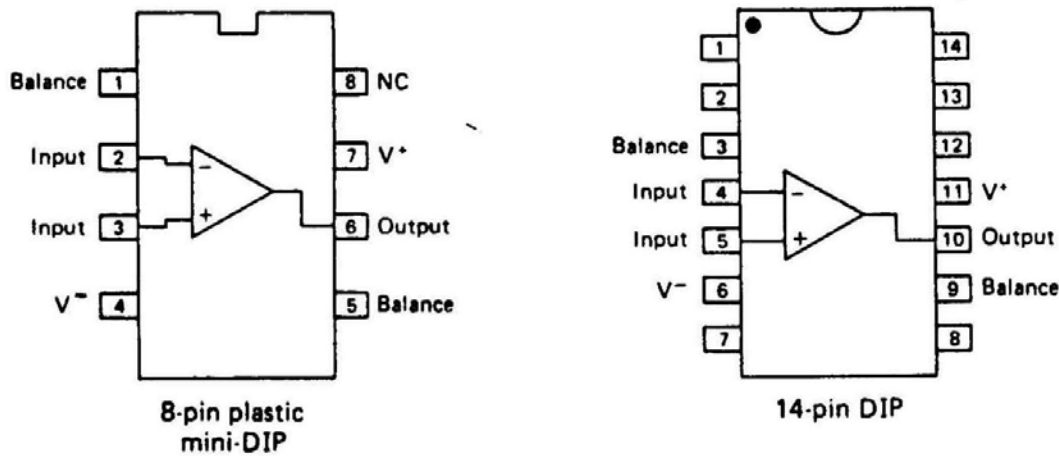

Figure 4. IC op amp packages
- Be sure to follow the pin diagram shown in Figure 4, with the appropriate DC voltage sources to power up your op amp.